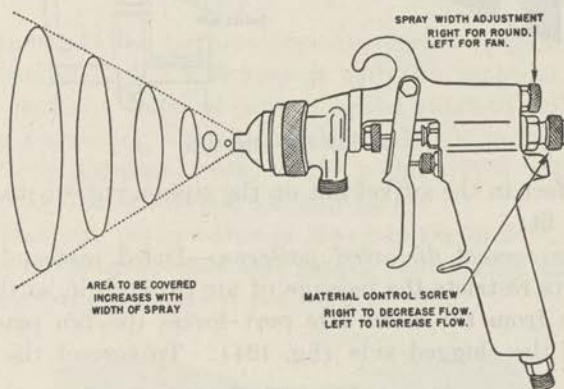

FIGURE 122.—Width and shape of spray.
(2) Air pressure means pressure at the gun with the gun open. It must be set to allow for the drop in pressure between the regulator and the spray gun. Pressure at the gun can be determined accurately by inserting a pressure gage where the air hose joins the gun; it can be estimated closely from the following: 25 feet of $\frac{5}{16}$ -inch I. D. (internal diameter) hose has a pressure drop of 5 pounds per square inch; 25 feet of $\frac{1}{4}$ -inch I. D. hose has a pressure drop of 16 pounds per square inch.
(3) In body spraying, a pressure of 55 pounds per square inch is about right for synthetic enamel, and 70 pounds per square inch is about right for lacquer when a siphon cup is used. If a pressure container is used, about 20 pounds per square inch less atomizing pressure is sufficient.
b. Spray width.—Turn air control screw clockwise for a round spray pattern and counterclockwise for a fan. Turn the material control screw clockwise to decrease the flow and counterclockwise to increase it. As the width of the spray is increased, increase the flow of material to get the same coverage on the wider area being sprayed. (See fig. 122.)